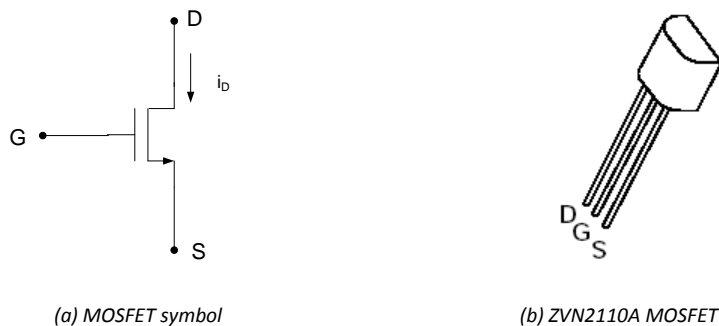

Figure 1. MOSFET symbol and typical physical appearance.
The primary circuit element used in this assignment is a Metal Oxide Semiconductor Field Effect Transistor (MOSFET). There are two basic types of MOSFETs: *n-channel* and *p-channel*; the discussion presented here is for n-channel MOSFETs, though similar concepts apply to p-channel MOSFETs. A MOSFET is a three-terminal device; the symbol commonly used to represent a MOSFET in circuit diagrams is shown in Fig. 1(a). The three terminals of the device are called the source (S), the drain (D) and the gate (G). Our circuit will employ a ZVN2210A MOSFET; the
physical appearance of this MOSFET is shown in Fig. 1(b), along with the relative locations of the drain, gate and source for that model MOSFET.
An extremely simplified discussion of a MOSFET's operation is as follows: A "channel" is opened in the MOSFET by application of a voltage at the gate of the MOSFET. This channel allows current to flow from the drain to the source of the MOSFET (i_D in Fig. 1(a)). Thus, if a power supply is connected to the drain of the MOSFET, the MOSFET can be used to control the power supply's current: increasing the gate voltage increases the current out of the power supply. A rough analogy to this process is a valve placed at the base of a water tank – opening the valve allows water to flow out of the tank. Likewise, increasing the gate voltage allows current to "flow" out of the power supply. A MOSFET, therefore, in conjunction with a power supply, can act as a voltage controlled current source in which the drain current is controlled by the gate voltage.